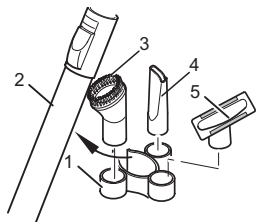

Fig.5
5. Push the accessories mount (Fig. 5/1) onto the telescopic tube (Fig. 5/2) below the telescopic tube lock. Then push the furniture brush (Fig. 5/3), crevice nozzle (Fig. 5/4) and upholstery nozzle (Fig. 5/5) onto the holders.
■ The crevice nozzle, the furniture brush and the upholstery nozzle are included as **accessories** in the scope of delivery. They can be secured to the accessories mount (Fig. 5/1) when not in use.